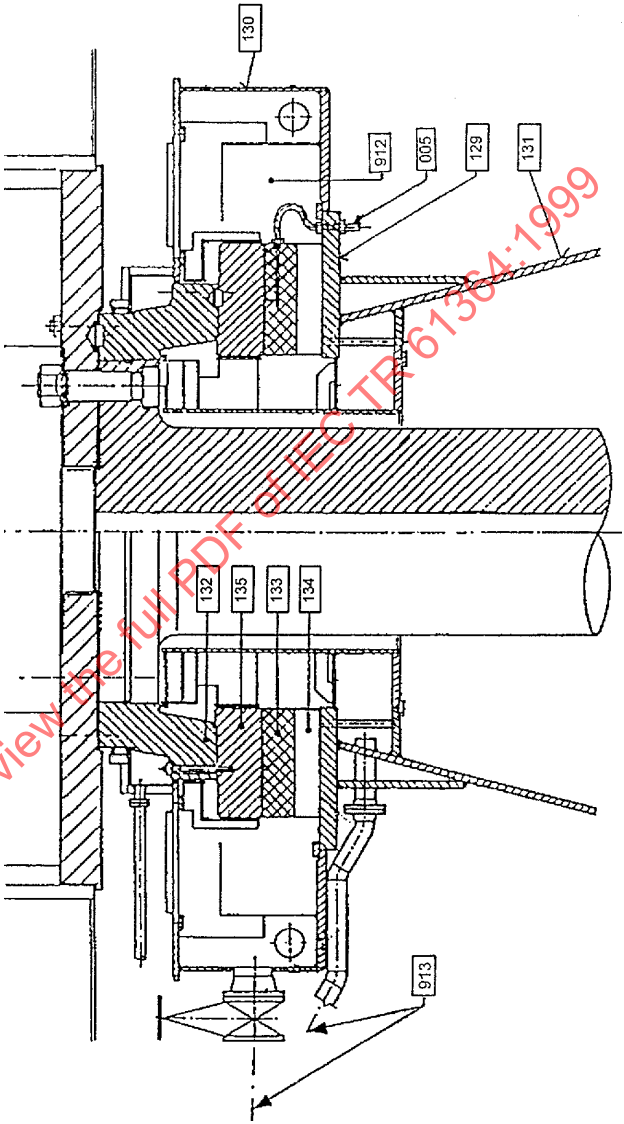

Figure 35 - Thrust bearing
**6.2.5.2 Thrust bearings, figure 35**
**Paliers de butée, figure 35**
| 6.2.5.2 | Thrust bearings, figure 35 (continued)       |                                  |
|         | Paliers de butée, figure 35 (suite)          |                                  |